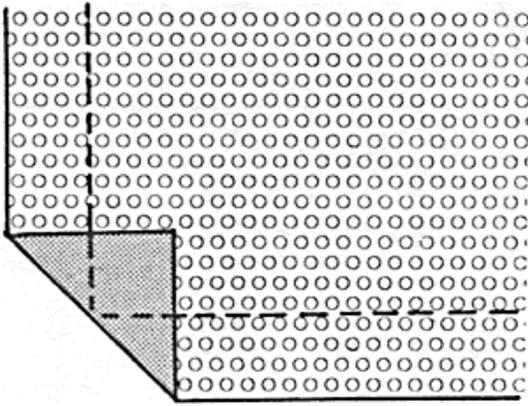

Figure 6.
3. Fold back the corner of the fabric on the bias so that the fold touches the intersection of the two pressed lines. Press in place (*Figure 6*).